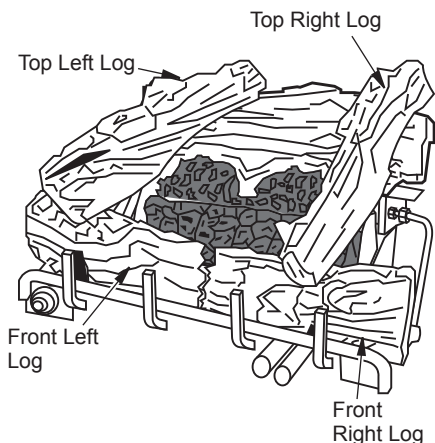

Figure 25 - Installing Logs
- Place top left log as shown in Figure 25. The bottom of the log is shaped to fit onto the recessed areas of the front left log and the rear log. The recessed areas are painted yellow.
- Place top right log as shown in Figure 25. The bottom of the log is shaped to fit onto the recessed areas of the front right log and the rear log. The recessed areas are painted yellow.